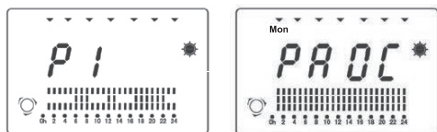

Fig. 10
I. Pre-set daily programmes II. Entering personal daily settings. (fig. 10)